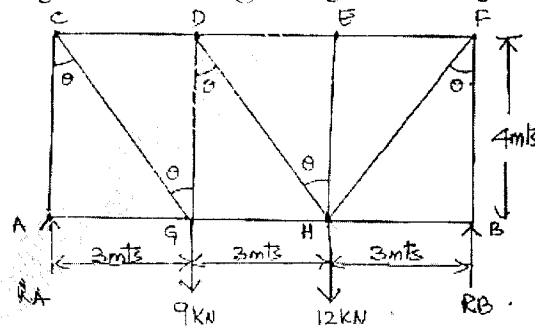

Fig. Q9 (c)
- c. A truss is shown in Fig. Q9 (c). Find the support reactions and calculate total weight if each member has  $\rightarrow$  2 angles  $50 \times 50 \times 6$  @ 4.5 kg/mt each angle. (09 Marks)